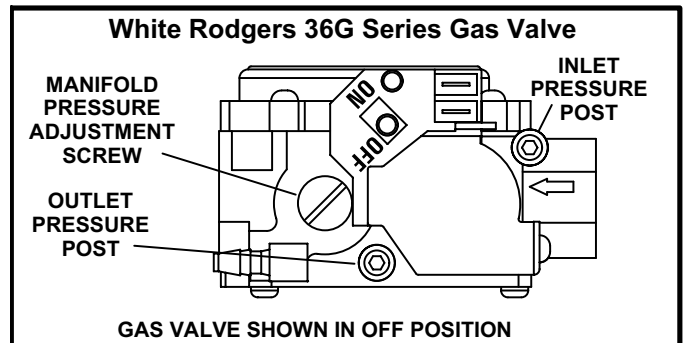

FIGURE 2
Operating the Gas Valve (Figures 2 and 3)
- 6 - *White Rodgers 36G Gas Valve* - Move gas valve switch to **OFF**. See figure 2 for the White Rodgers 36G valve.
- 8 - *White Rodgers 36G Gas Valve* - Move gas valve switch to **ON**. See figure 2 for the White Rodgers 36G valve.